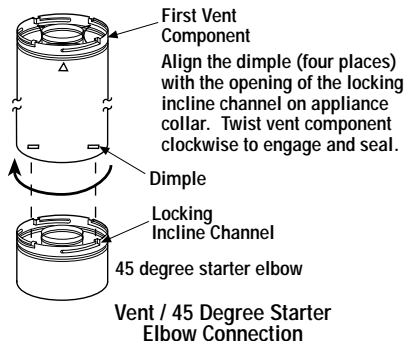

Figure 15
D. Attach vent components to 45 degree starter elbow - Secure Vent SV4.5 direct vent system components are unitized concentric pipe components featuring positive twist lock connections (see Figure 15).
To attach a vent component to the 45 degree starter elbow, align the dimpled end over the elbow, adjusting the radial alignment until the four locking dimples are aligned with the inlet of the four inclined channels on the collar (refer to Figure 15).
Secure Vent SV4.5 direct vent system components are unitized concentric pipe components featuring positive twist lock connection, (refer to **Figure 15 and 16 on page 12**). All of the appliances covered in this document are fitted with collars having locking inclined channels. The dimpled end of the vent components fit over the appliance collar to create the positive twist lock connection.
F. Attach vent components to starter elbow - To attach a vent component to the the starter elbow, align the dimpled end over the collar, adjusting the radial alignment until the four locking dimples are aligned with the inlets of the four incline channels on the collar (refer to *Figure 15 on page 12*).